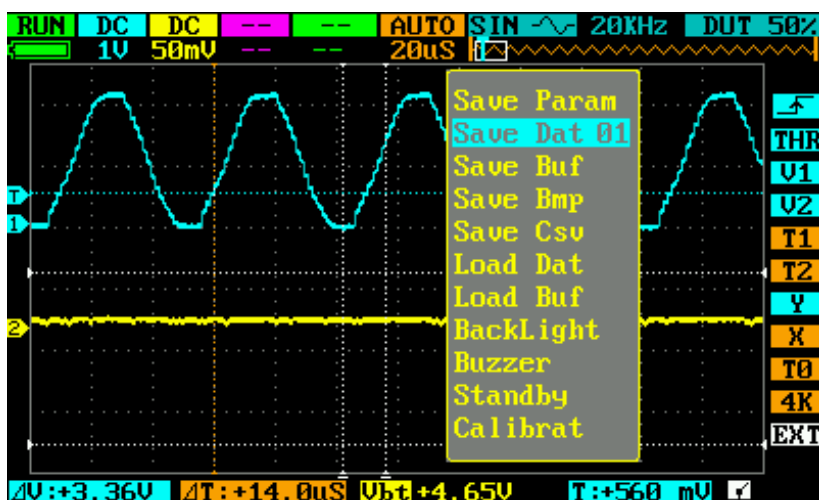

Figure 4.3
3. Navigate to Y in P field. Adjust horizontal level, to compare waveforms, as shown in Figure 4.3: